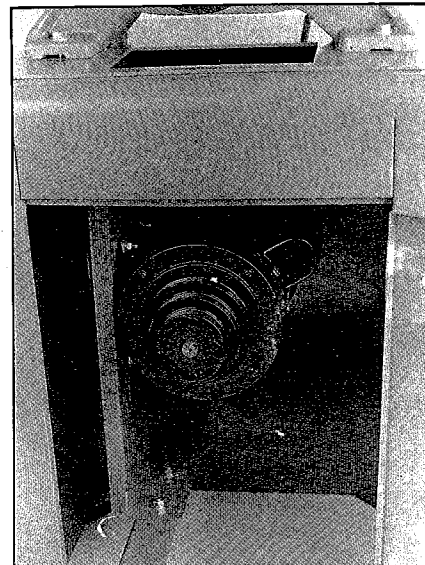

Fig. 5
10. Slide the three step motor pulley onto the motor shaft, as shown in Fig. 5. Be sure the key engages the motor shaft and the new step pulley. Tighten the motor pulley set screw.